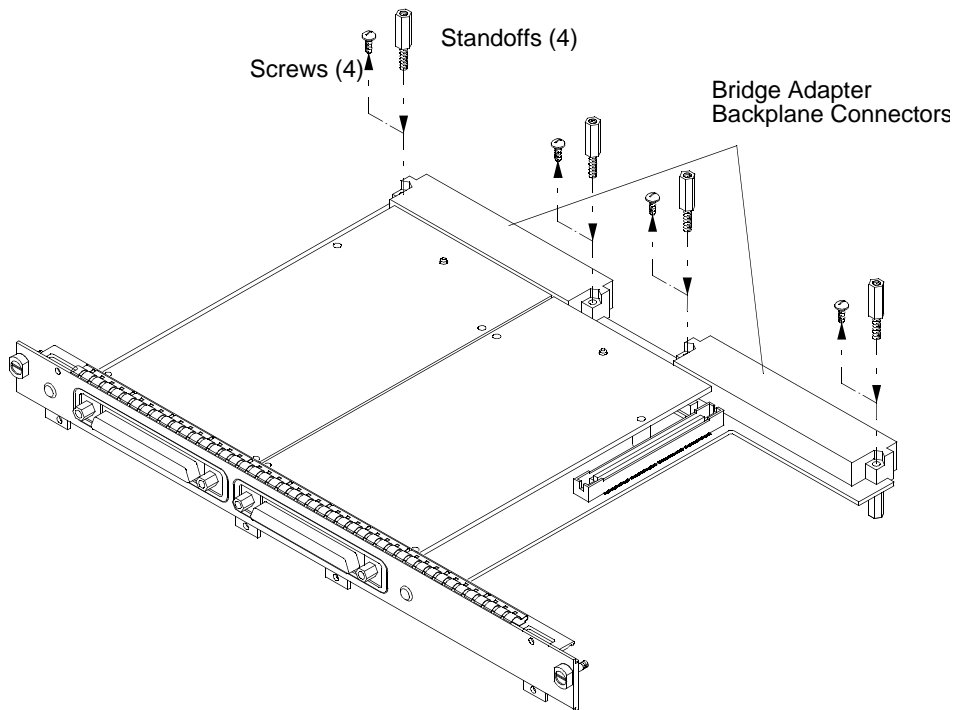

Figure 4-5 **Removing Bridge Adapter Screws**
- 8 Remove the four screws from bridge adapter backplane connectors, and replace them with the four standoffs included in the expansion adapter kit. See Figure 4-5.